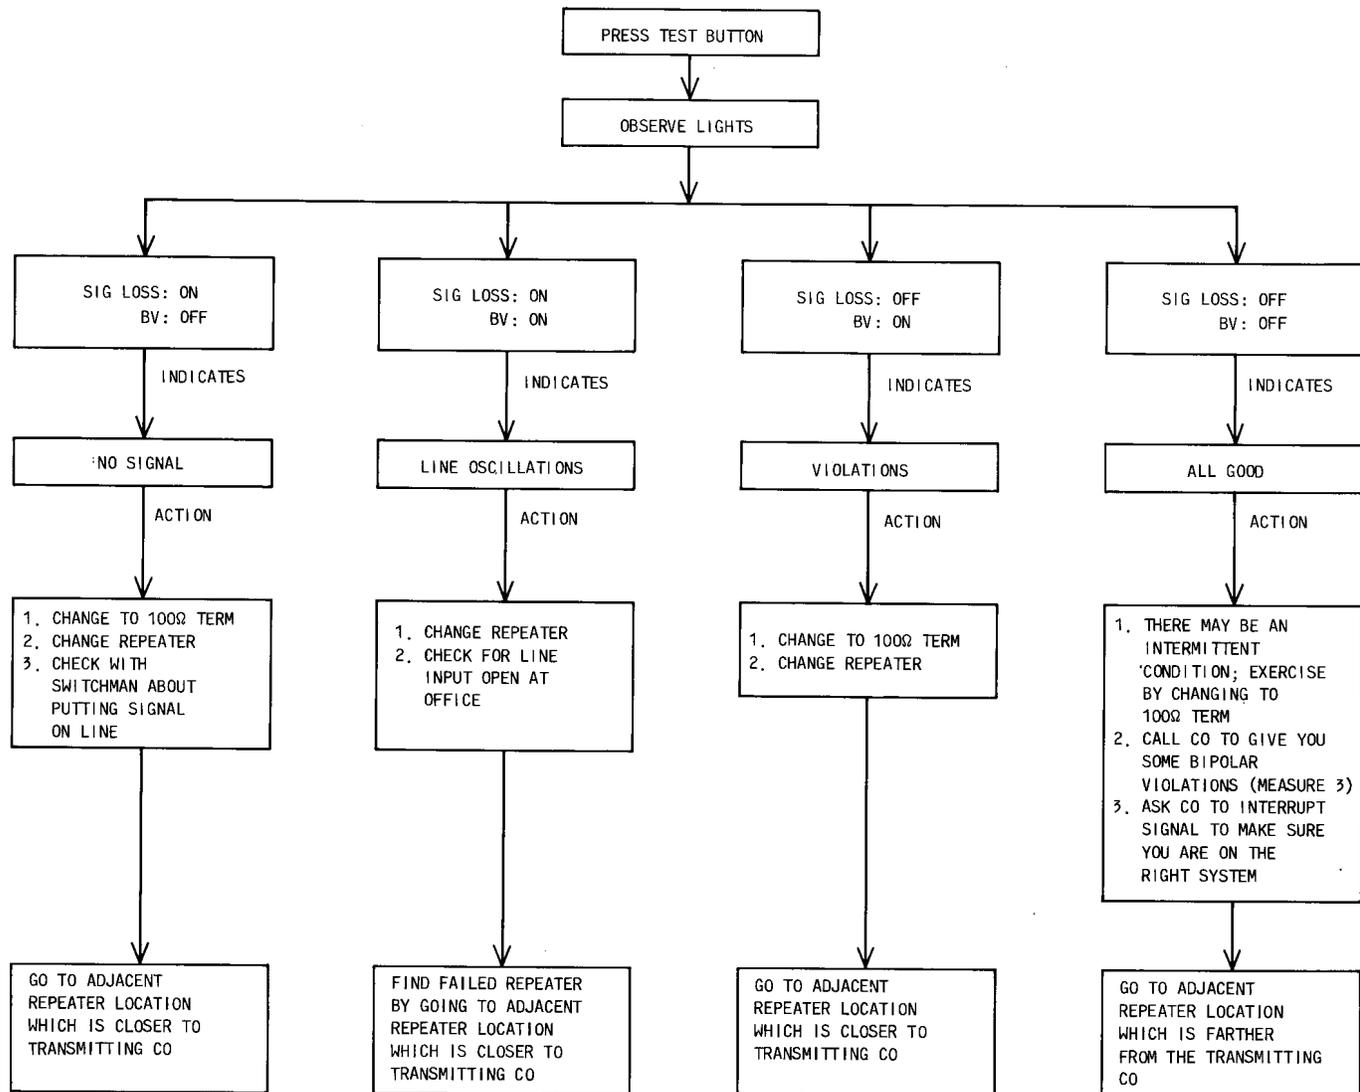

Fig. 4—Summarized Testing Procedure
3.03 A summarized testing procedure is shown by the block diagram drawing in Fig. 4.